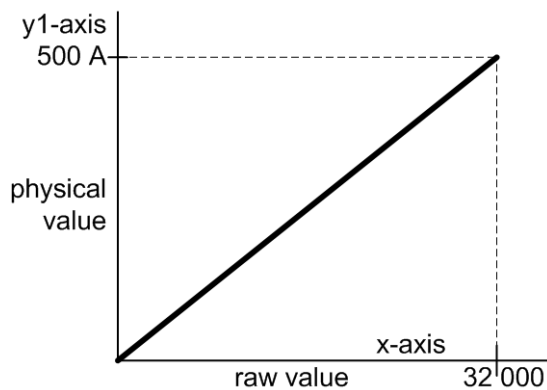

Figure 3-2.29: Linear, Unipolar Characteristic
- Linear, unipolar (Figure 3-2.29)